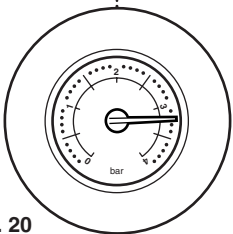

Fig. 20
3. A pressure of 3 or greater indicates a fault. The safety pressure relief valve will operate, at a pressure of 3 (Fig. 20). **It is important that your Service Engineer is contacted as soon as possible.**